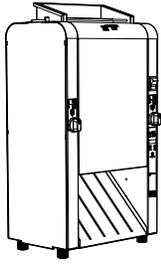

Figure 1
2. Refer to Figure 1. Remove the Bun Feeder, Release Sheet, and Bun Chute and set aside.
2. Put on heat resistant gloves. Remove the Bun Feeder and Bun Chute (Figure 1). Set these item aside.